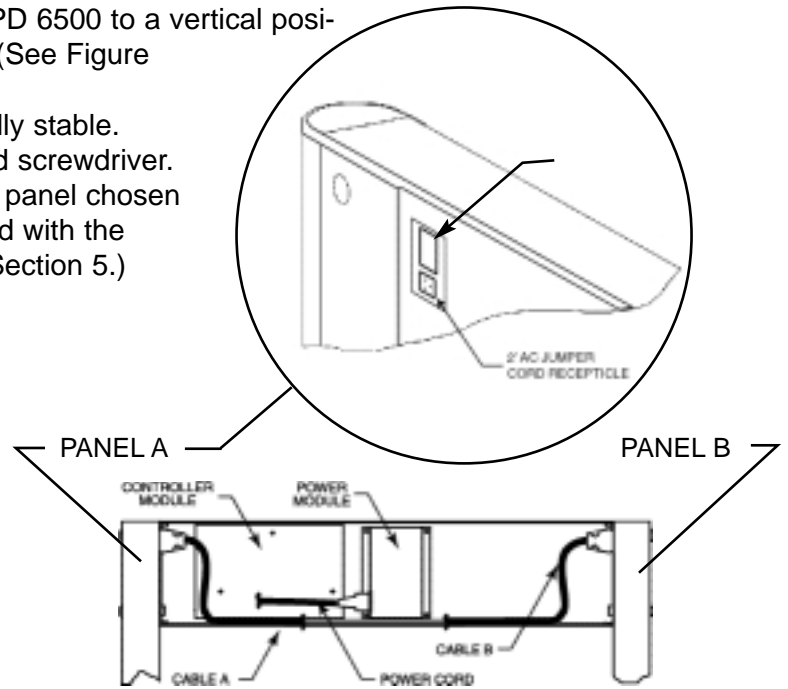

Figure 3-3
4. Open the door of the detection unit. Select a panel for power use (keeping in mind the location of the electrical outlet) and connect the AC jumper cord to said panel and the power module. Then, connect cables A and B to the corresponding panels. (See Figure 3-3.)